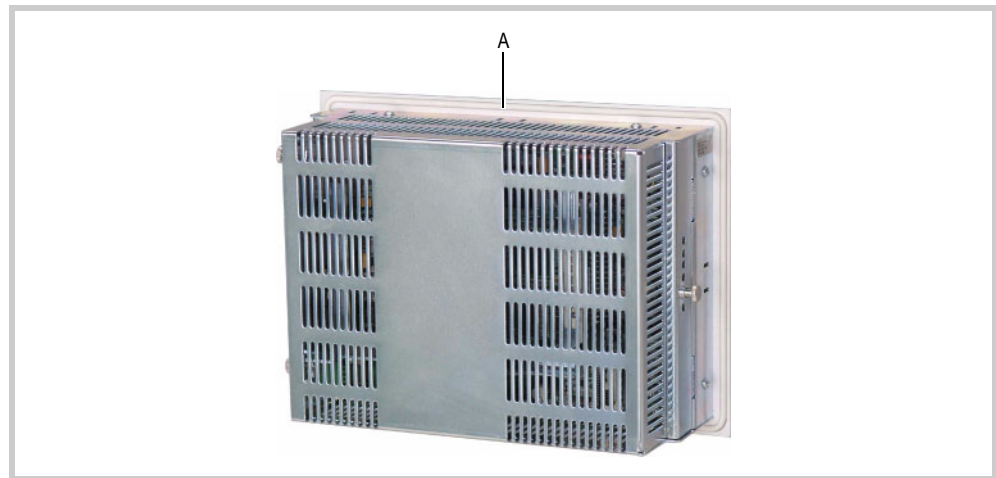

Fig. 25 Groove for sealing strip (A)
- 3 Insert the sealing strip supplied in the groove (A) on the rear of the device front plate and cut it so that the joint is tight.
- Groove for sealing strip, see Fig. 25,  41.